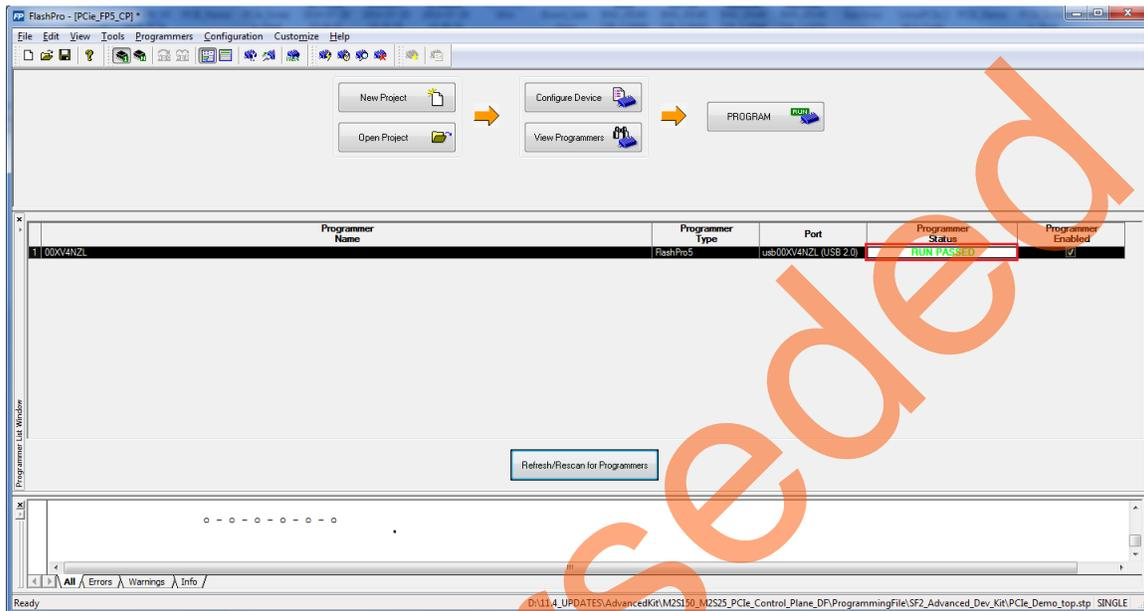

Figure 7 • FlashPro Programming Window
2. Program the SmartFusion2 device with the programming file provided in the design files (`\ProgrammingFile\EDAC_DDR3.stp`) using FlashPro design software, as shown in Figure 7.